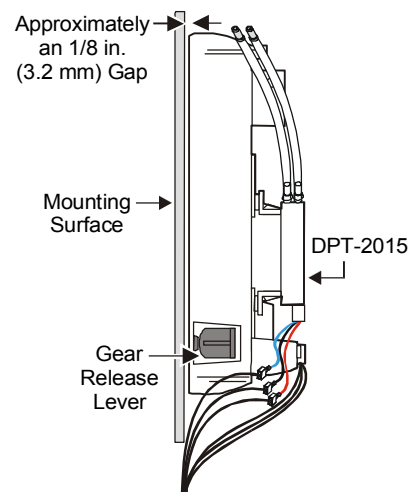

Figure 2: Actuator Position
2. Make sure the actuator is in the desired mounting position, parallel to the mounting surface as shown in Figure 2.
- Press and hold the gear release lever shown in Figure 2, and rotate the actuator coupler to the fully closed position.
- Make a note of the rotation range and direction, either Clockwise (CW) or Counterclockwise (CCW), required to close the damper.